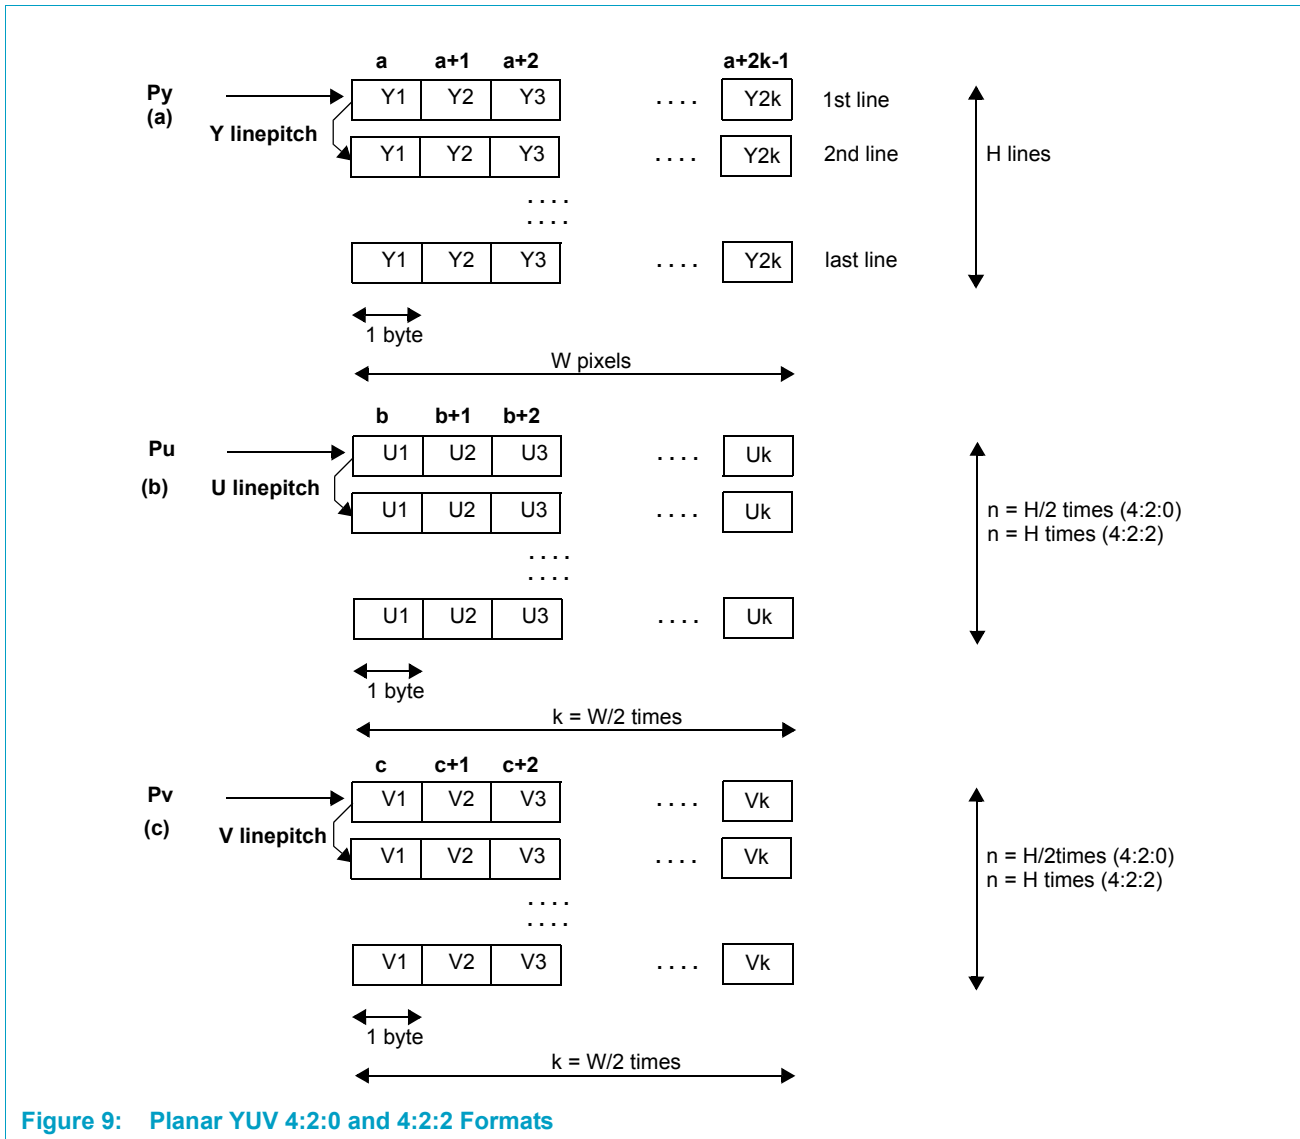

Figure 9: Planar YUV 4:2:0 and 4:2:2 Formats
- Planar, or '3 plane' format. An image is described by 3 pointer values (Py, Pu, Pv). Each pointer points to a 2D array of Y, U and V values. Figure 9.